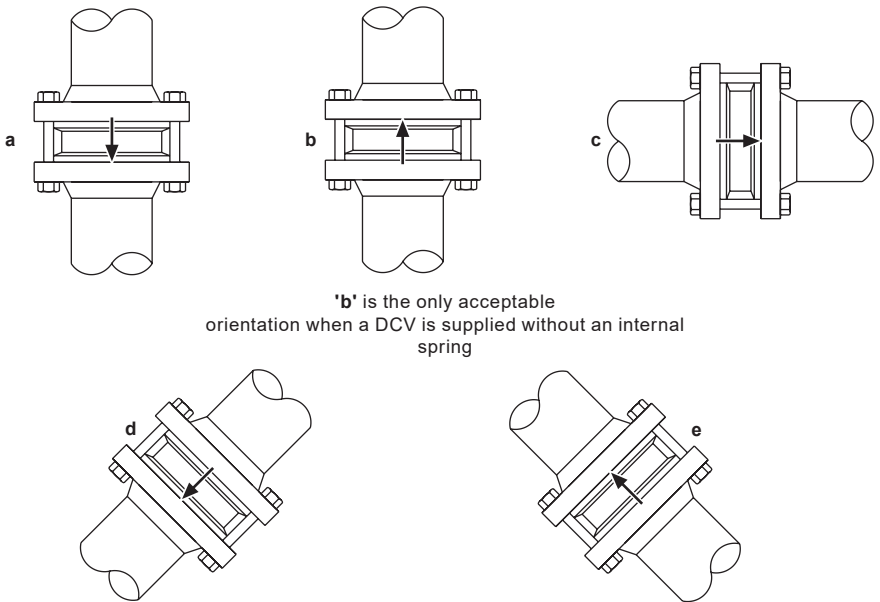

Fig. 3
- 3.5** Disc check valves simply fit between two pipe flanges (see Figure 3). Standard gaskets are used either side of the valve together with longer bolts or studs.